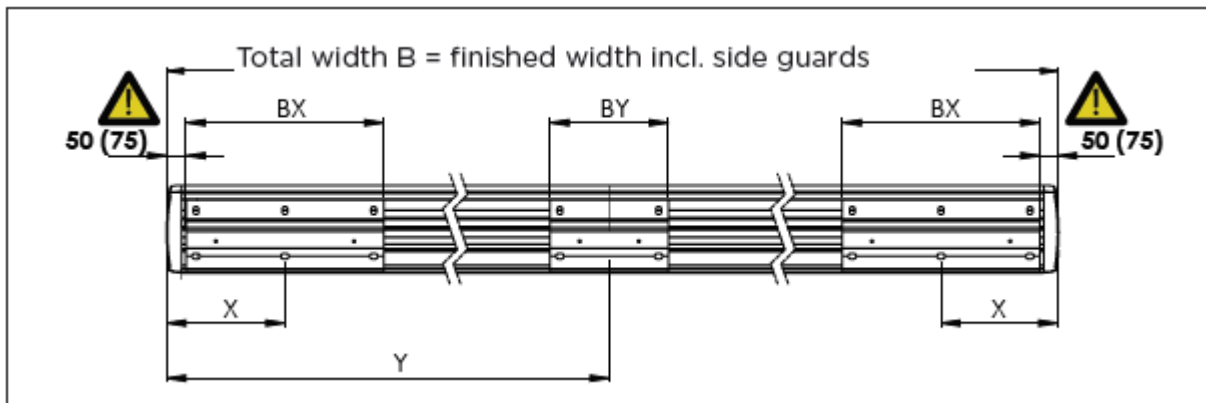

Fig.1 Fix distance: 75 mm – left and right
- c When starting, mount the awning sufficiently high against the wall, at least at 2500 mm, to have sufficient run-out height (Y) under the extension pole when the screen is open. Make sure the angle of inclination is at least 10° and at most 35° (see fig. 1).